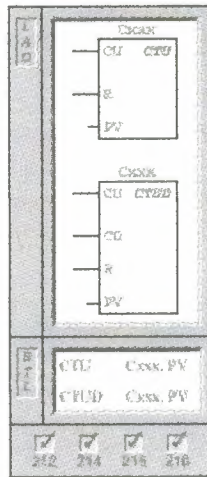

Figure 7.9
The Count Up instruction counts up to the maximum value on the rising edges of the Count Up (CU) input. When the current value (Cxxx) greater than or equal to the Preset Value (PV), the counter bit (Cxxx) turns on. The counter is reset when the Reset (R) input turns on. In STL, the Reset input is the top of the stack value, while the Count Up input is the value loaded in the second stack location. The Count Up/Down instruction counts up on rising edges of the Count Up (CU) input. It counts down on the rising edges of the Count Down (CD) input. When the current value (Cxxx) is greater than or equal to the Preset Value (PV), the counter bit (Cxxx) turns on. The counter is reset when the Reset (R) input turns on. In STL, the Reset input is the top of the stack value, the Count Down input is the value loaded in the second stack location, and the Count Up input is the value loaded in the third stack location (Figure 7.9).